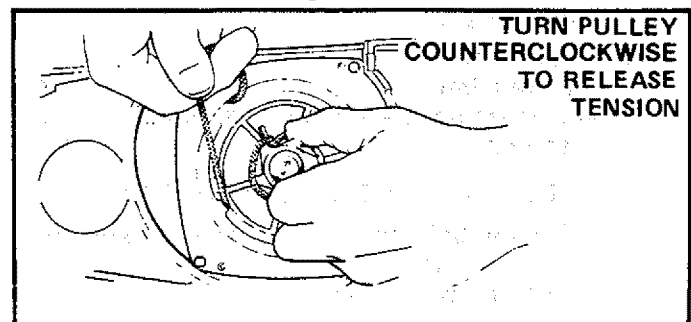

Figure 49
3. If the starter rope is not broken, release the spring tension by pulling about 12 inches of rope from the pulley and catch the rope in the notch as shown. Figure 49.